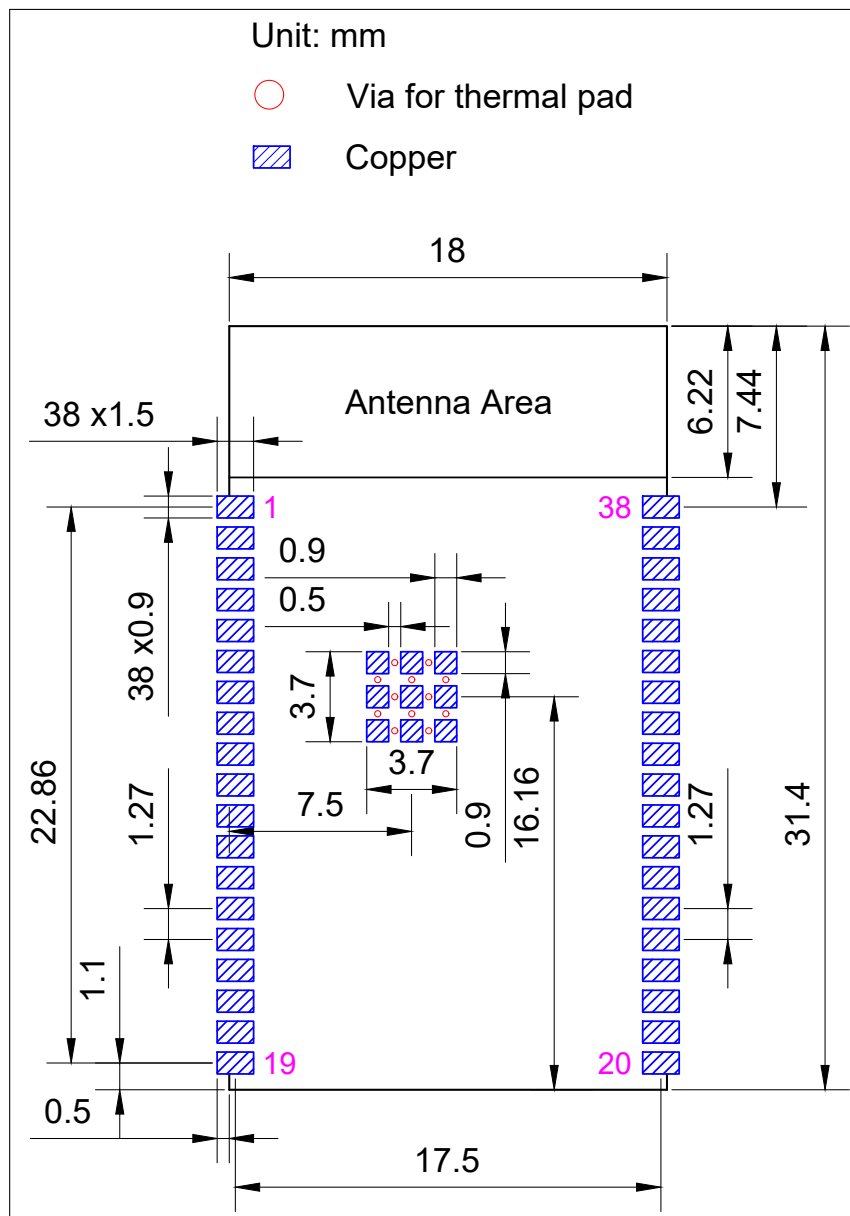

Figure 12: Recommended PCB Land Pattern
- Source files of recommended PCB land patterns to measure dimensions not covered in Figure 12. You can view the source files for ESP32-WROVER-E and ESP32-WROVER-IE with Autodesk Viewer.